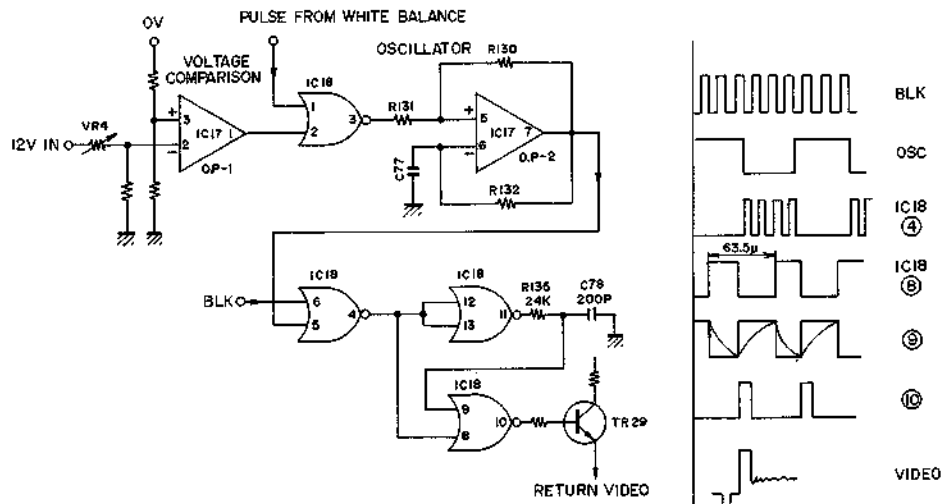

Fig. 3-7
(5) Battery alarm circuit
With 12V lowered to 10.7V, the OP-1 (IC17) voltage comparator will have an "H" level output while NOR ③ in the IC18 will be "L". With OP-2 (IC17) input ⑤ at the "L" level too, the oscillator will begin functioning. The oscillator output enters NOR ⑤ in IC18 while the BLK enters ⑥ in IC18. The outputs shown in Fig. 3-7 are taken out at output IC18 ④; one is inverted in NOR ⑪, ⑫ and ⑬ and integrated in R135 and C78, thus entering NOR input ⑨ in IC18, while the other enters ⑧ in IC18 as it is. The output is taken out at ⑩ in IC18 and supplied to the return video and flashing the View Finder through the emitter follower in TR29. In the meantime, the white balance flashing signal also enters NOR input ① in IC18.
(6) Pulse generator circuit